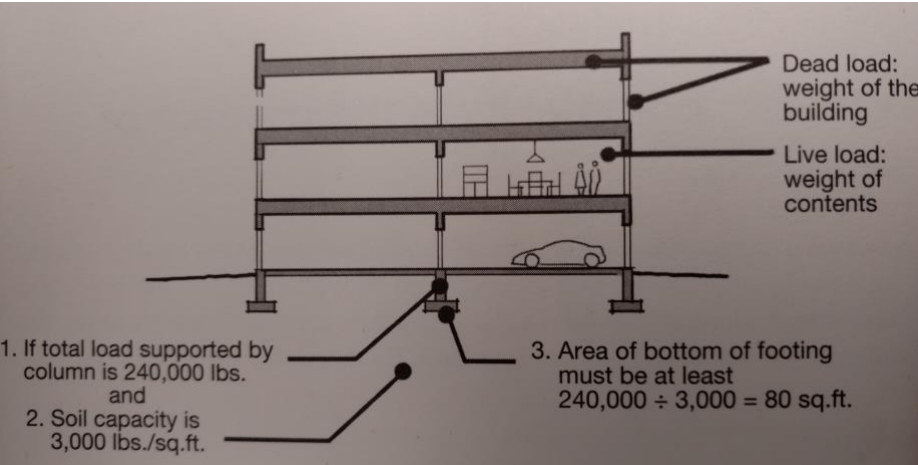

Figure 3: Building load and footing area (Frederick, M., & Kuprenas, J.)
**The total load** of the building consists of dead and live loads (see Figure 3). The dead load is the weight of the building itself and is constant over the life of the building. Live loads change over the life of a building and come from people, wind, etc.